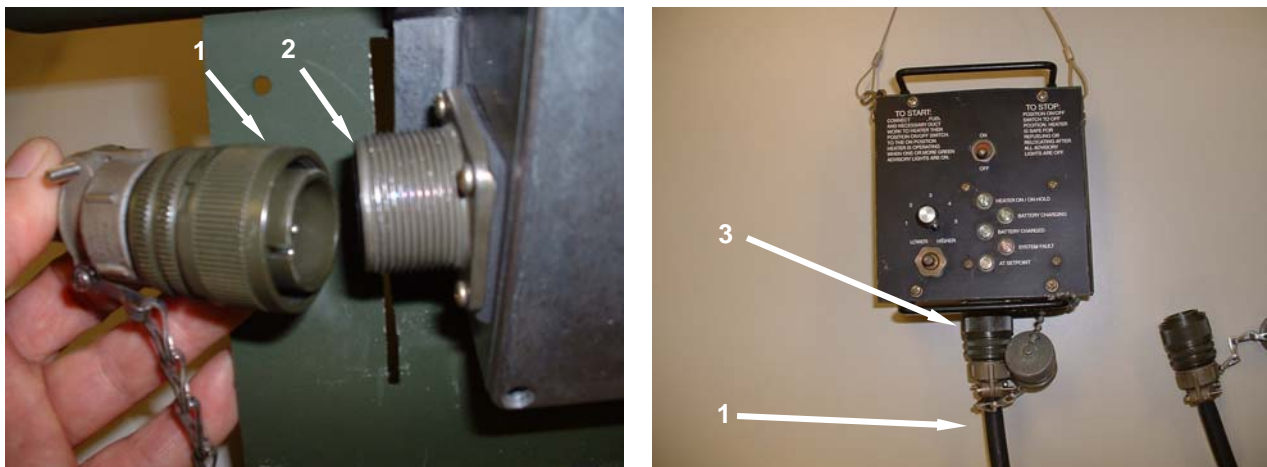

Figure 1. Inspect the In-tent Controller Cable Assembly.
2. Inspect the in-tent controller cable assembly connectors (**Figure 1, Item 1**) for cracks, dents to the outer collar, dirt in the contacts, or any other damage that would prevent the connector (**Figure 1, Item 1**) from making a good electrical connection with the heater control box connector (**Figure 1, Item 2**) or the in-tent controller assembly connector (**Figure 1, Item 3**).